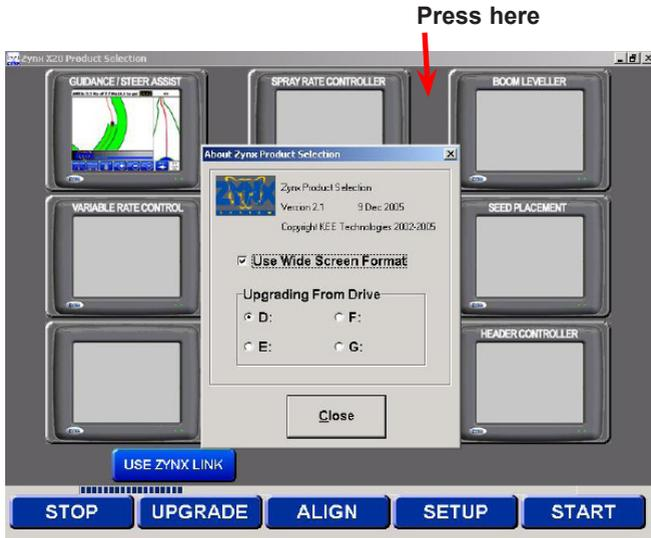

Figure 7-3.About Product Selection Screen
1. Press on the screen between SprayRate Controller and Boom Leveler (Figure 7-3).